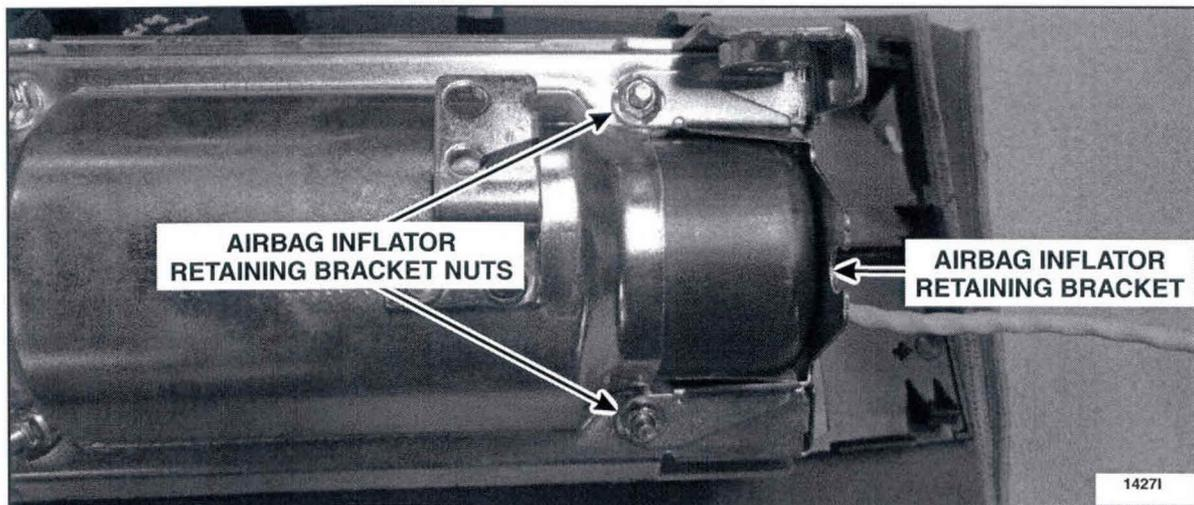

FIGURE 8
8. Remove the two airbag inflator retaining bracket nuts and the bracket. Discard the nuts. See Figure 8.
11. Install the passenger airbag inflator retaining bracket using the *new* nuts. See Figure 8.